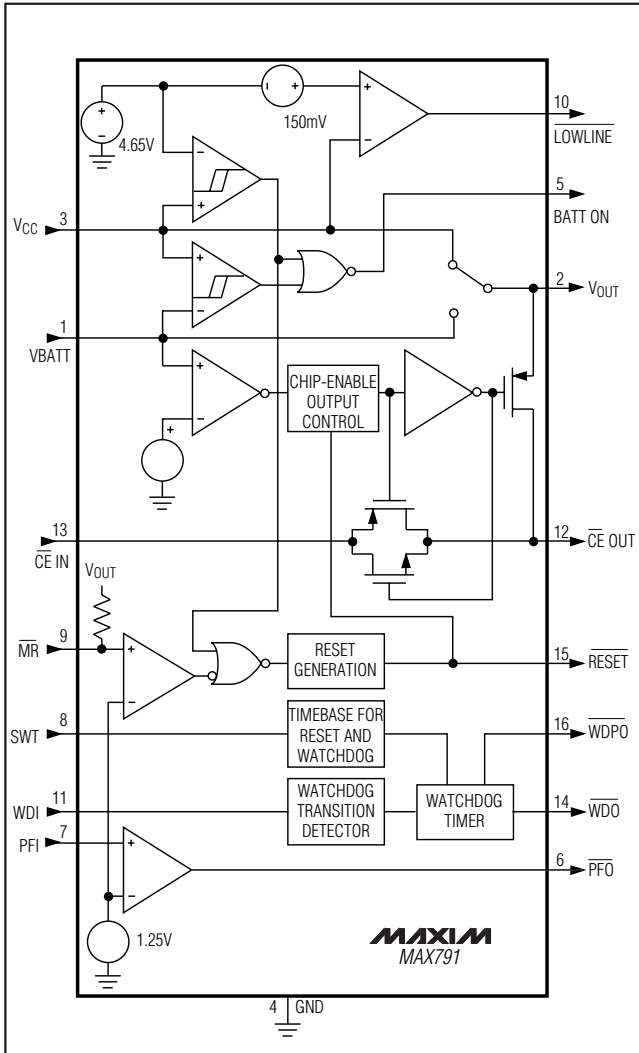

Figure 1. MAX791 Block Diagram
Many µP-based products require manual-reset capability, allowing the operator or test technician to initiate a reset. The Manual Reset Input (MR) can be connected directly to a switch, without an external pull-up resistor or debouncing network. It connects to a 1.25V comparator, and has a pull-up to V_{OUT} as shown in Figure 1. The propagation delay from asserting MR to RESET asserted is 4µs typ. Pulsing MR low for a minimum of 15µs resets all the internal counters, sets the Watchdog Output (WDO) and Watchdog-Pulse Output (WDPO)